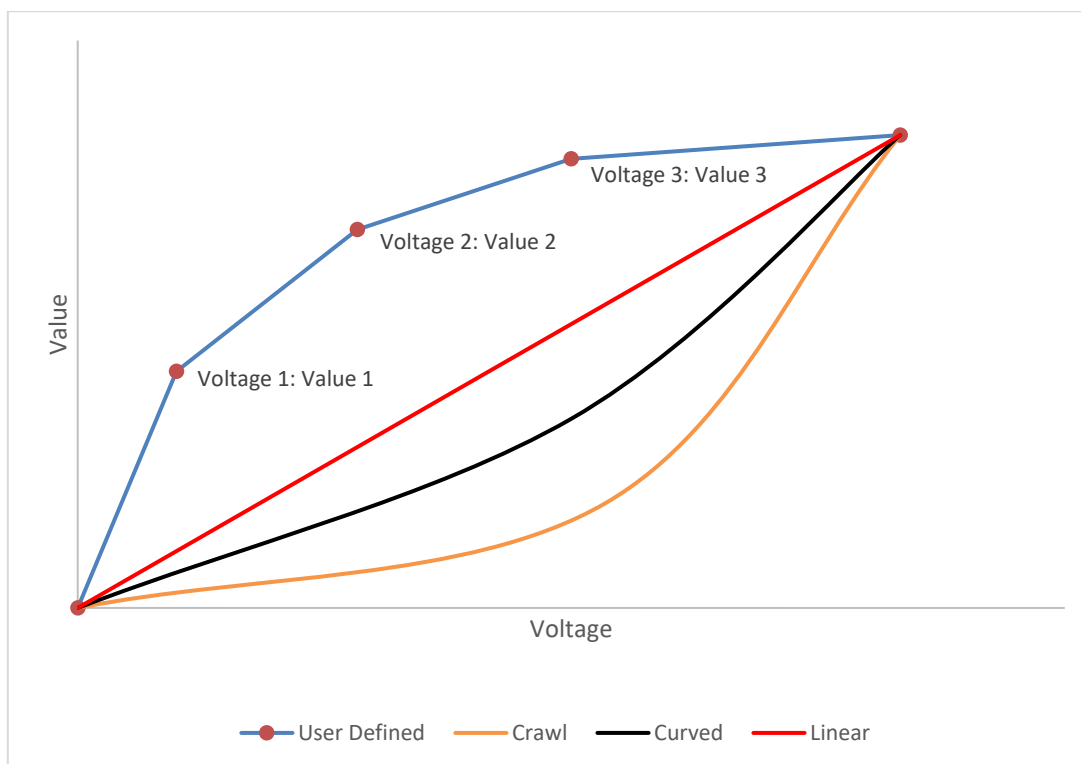

Figure 33 – Input characteristics
- Define the input characteristic: this is a profile to the throttle value and can be linear, curved, crawl or user-defined as shown in Figure 33. The curved and crawl characteristics give greater throttle control at low speeds.